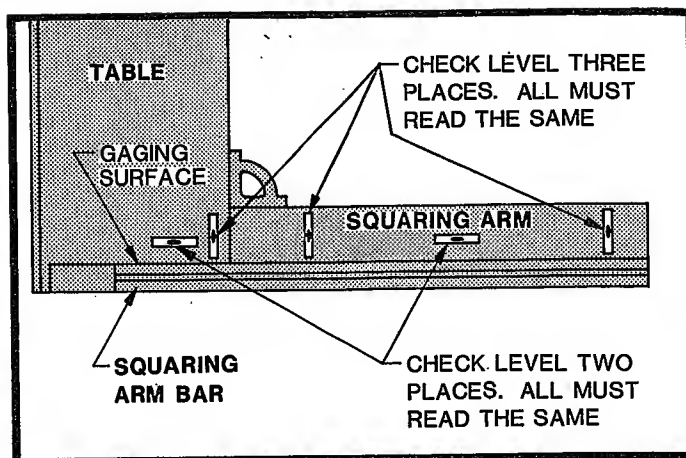

FIGURE 90
1. Check the level of squaring arm left-to-right and front-to-back as shown in Figure 90. Adjust level as required.